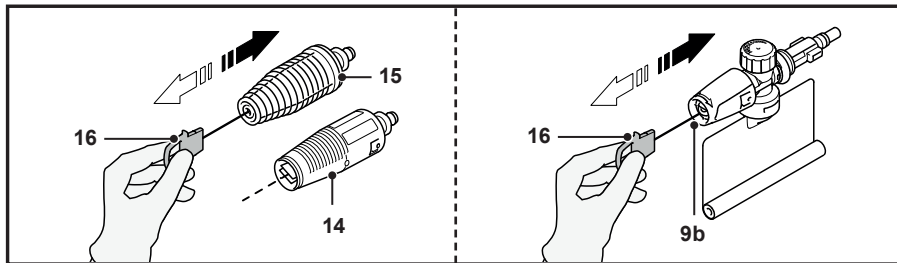

Fig. 13
To remove any dirt deposits from the nozzle (9b/14/15), insert the cleaning needle (16) into the nozzle opening and move it back and forth (Fig. 13).